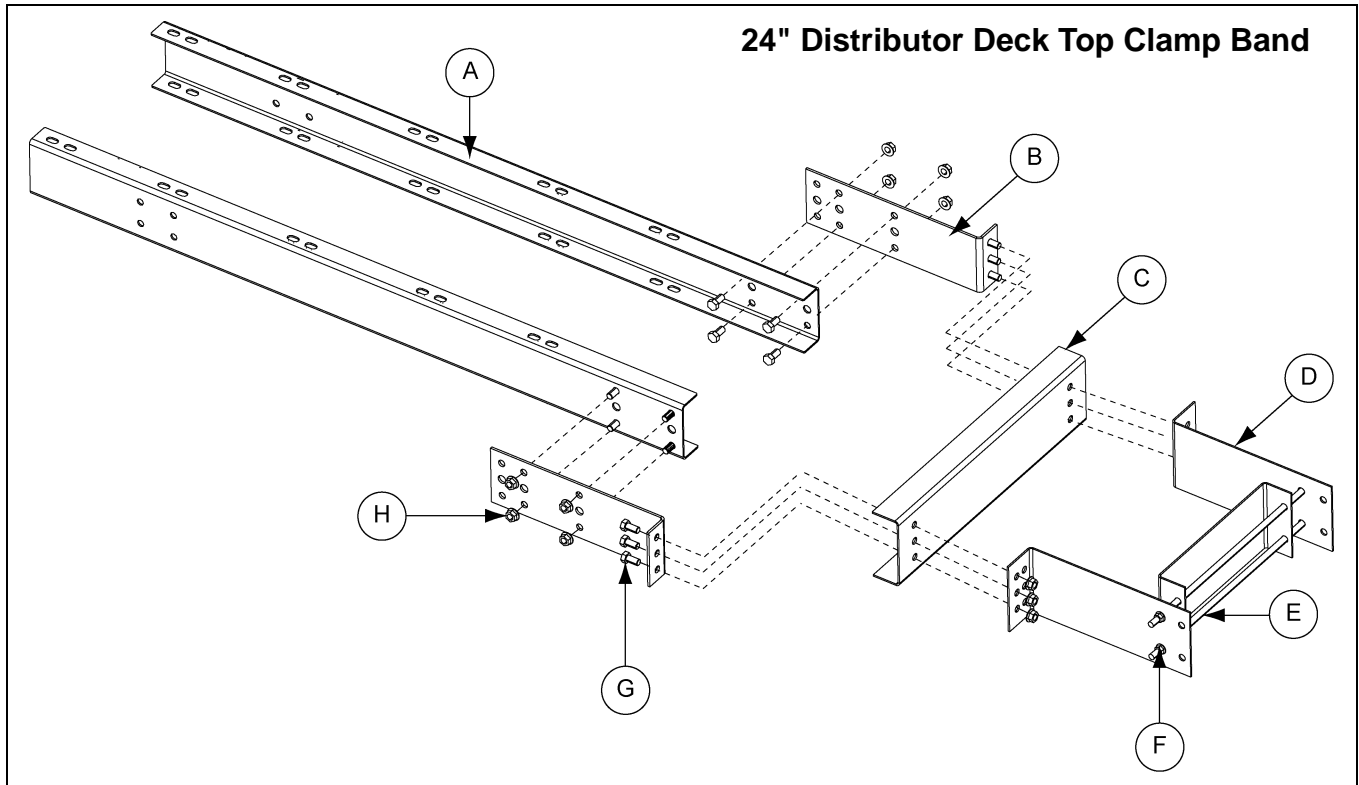

Figure 10C
1. Slide rods of clamp rod weldment into inside set of holes of clamp bands for 24" assembly. Fasten together using four (4) 1/2" hex flange nuts.
2. Line up the holes on the support channels with the inside set of holes on the 16"-24" long clamp clips and fasten all four (4) together using eight (8) 1/2" x 1" bolt and nuts.
3. Assemble the 16"-24" long clamp assembly, clamp channel and clamp rod assembly at same time around the trunking. Place clamp rod weldment assembly around the trunking leg and line up holes on 16"-24" long clips and clamp channel with the **outside set of holes** on the clamp rod weldment. Fasten all three (3) together using six (6) 1/2" x 1" bolts and nuts. *(See Figure 10C.)*